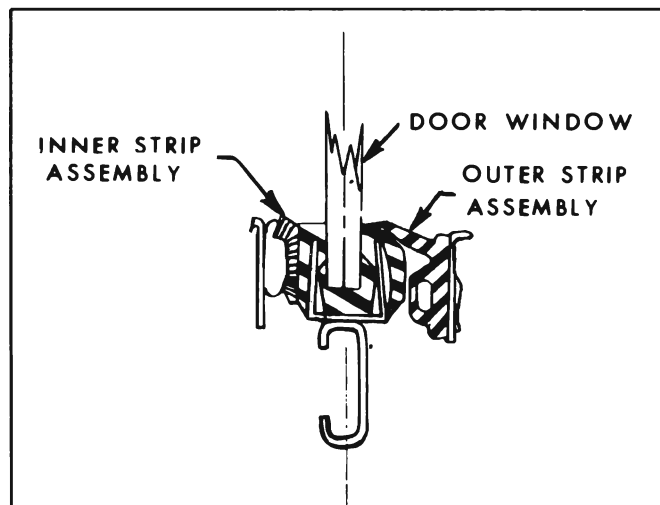

Figure 13-33—Front & Rear Door Glass Run Channel Inner and Outer Strip Assemblies
2. With a screwdriver or other suitable flat-bladed tool, carefully pry up outer edge of strip assembly at clip locations and remove strip from door. See Figure 13-33.